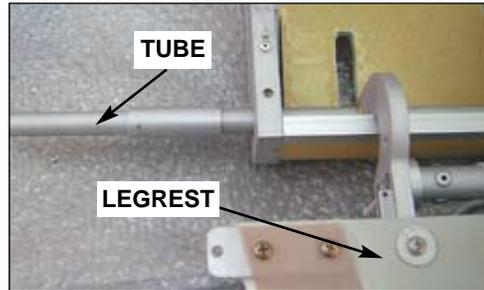

FIG. 304B:
- (3) Slide tube out to free legrest assy (see fig. 304B).